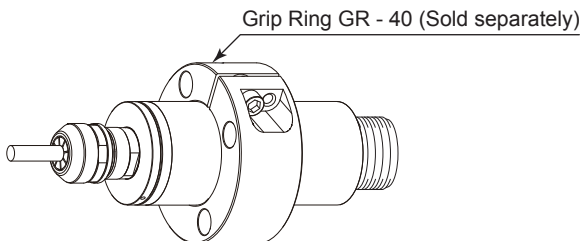

Fig. 9
*When installing a spindle, use a "Grip Ring GR-40 (sold separately)"(Fig. 9) recommended. If the Grip Ring GR-40 (sold separately) cannot be used due to the restriction of dimension and space, install as shown in ② below.